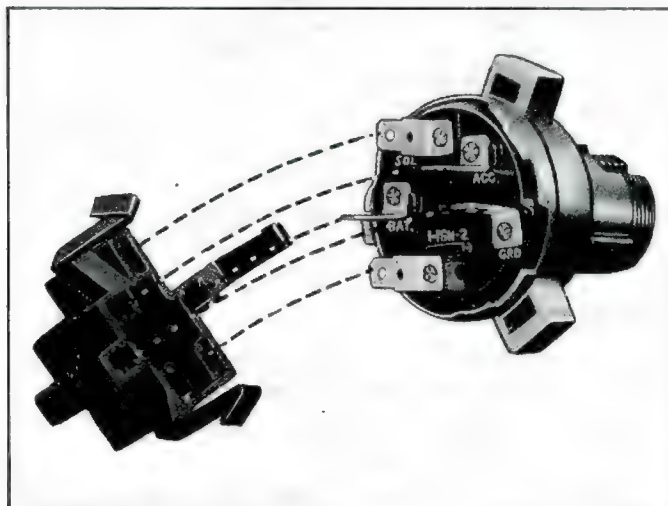

Fig. 10i—Switch and Connector Unplugged
6. Snap the connector into place on a new ignition switch (fig. 10i).